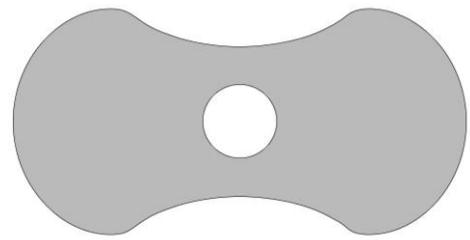
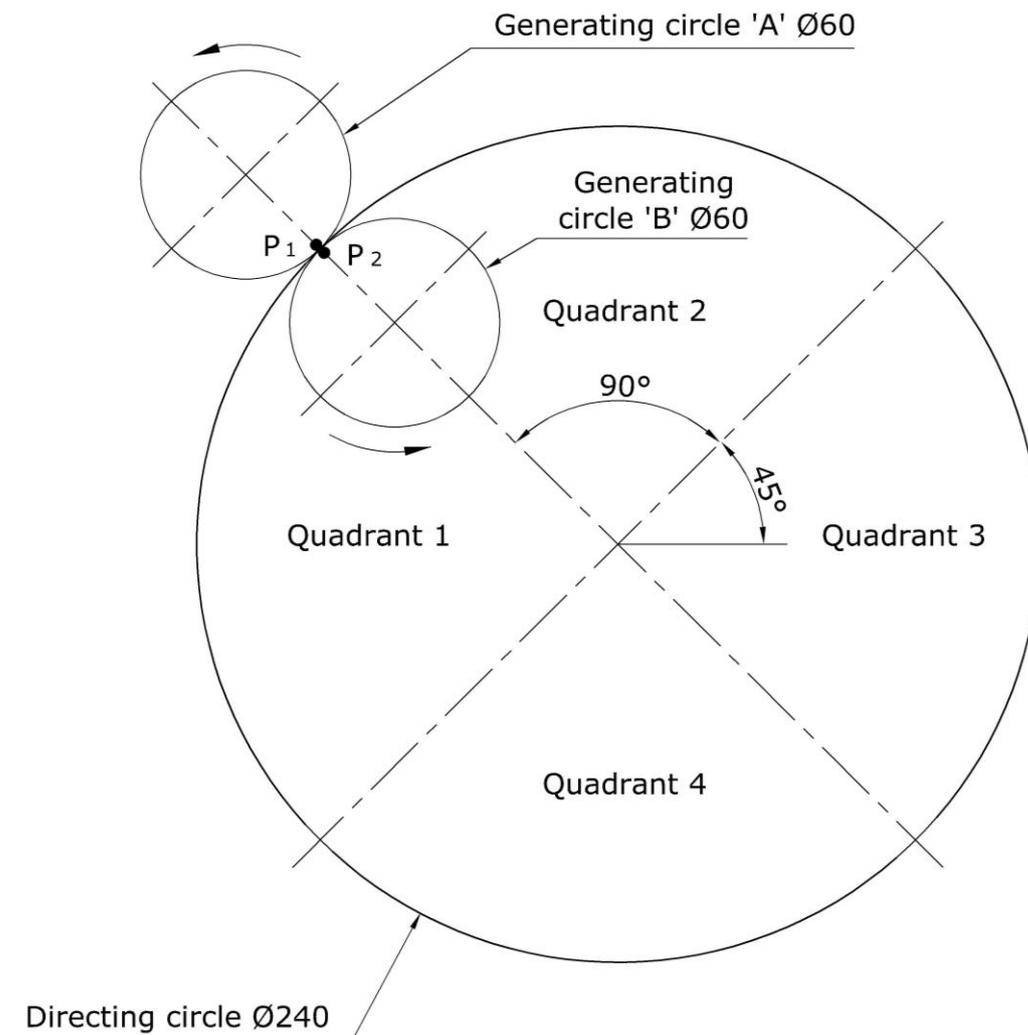

Figure 5a
Figure 5b
An illustration of a rotary pump lobe is given in Figure 5a. The profile of the lobe is produced by means of two generating circles, rolling without slipping, inside and outside a directing circle as shown in Figure 5b.
- copy the drawing shown in Figure 5b; (3)
- plot the locus of P_1 as the circle rolls outside quadrant 1 and name the curve; (6)
- plot the locus of P_2 as the circle rolls inside quadrant 2 and name the curve; (6)
- reflect the **TWO** curves in quadrants 3 and 4. (5)